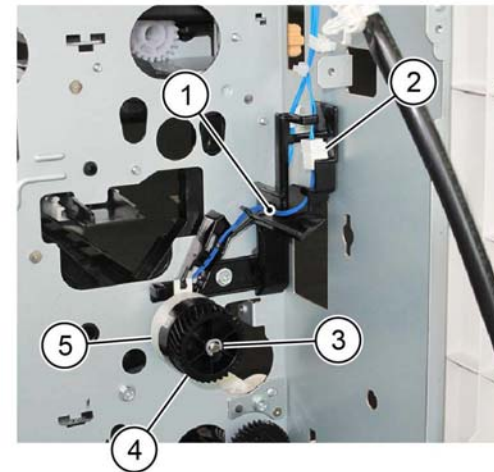

Figure 1 Registration clutch assembly removal
8. Remove the registration clutch assembly, Figure 1:
- a. Release the harness from the guide (1).
- b. Disconnect the connector (2).
- c. Remove the E-clip (3).
- d. Remove the registration clutch gear (4).
- e. Remove the registration clutch assembly (5).